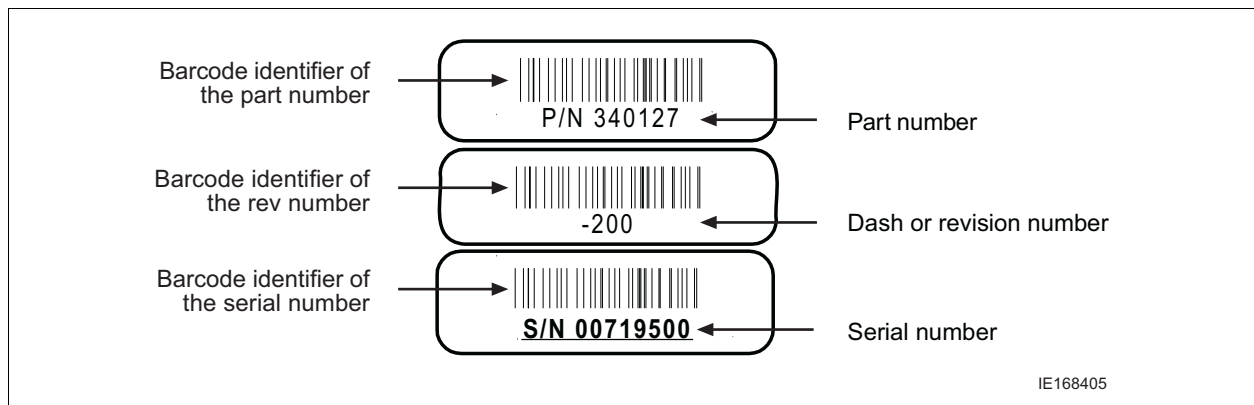

Figure 1-8: Sample Configuration Labels
An example of the configuration labels appears in Figure 1-8.
- 1 Locate the configuration part and serial numbers on your RF modules. Figure 1-8 illustrates a sample of these labels.